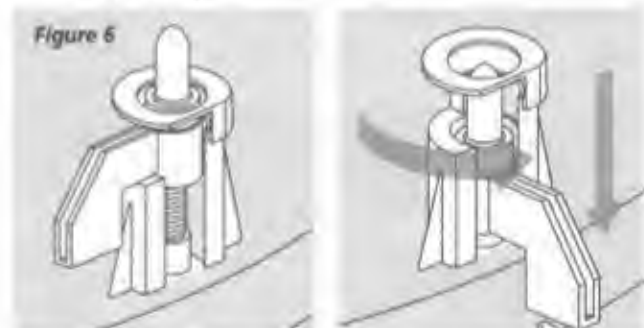

Figure 6
**7** Tighten the mounting screws one at a time. As you tighten, the rotating clamps on the back of the assembly will turn and lower, until they contact the back of the ceiling and clamp the ceiling between themselves and the trim ring. See Figure 6.